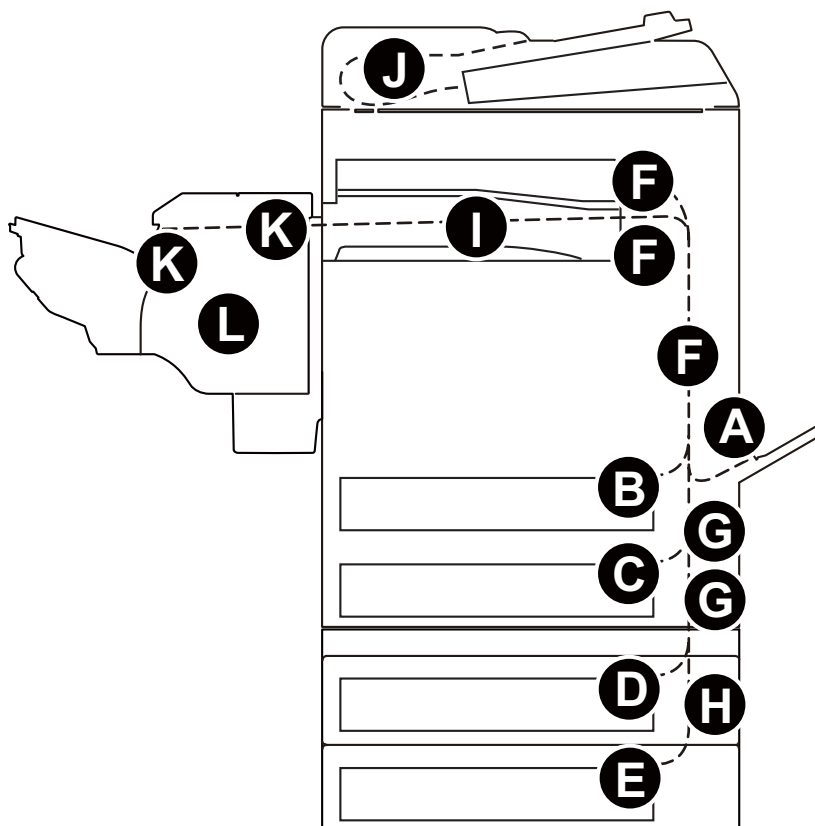

Figure 1-4-1
*. Refer to figure 1-4-1 for paper jam location (see page 1-4-1).
*: Refer to figure 1-4-1 for paper jam location (see page 1-4-1).
www*: Refer to figure 1-4-1 for paper jam location (see page 1-4-1).